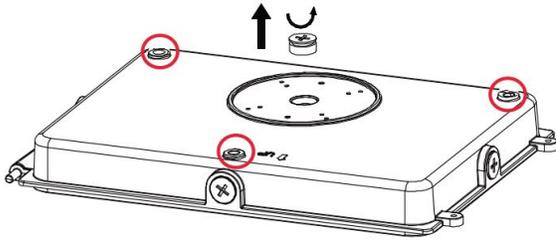

Fig5
**Step 3:** Feed wires through the 1/2" knockout (Fig5) and install the rear housing.